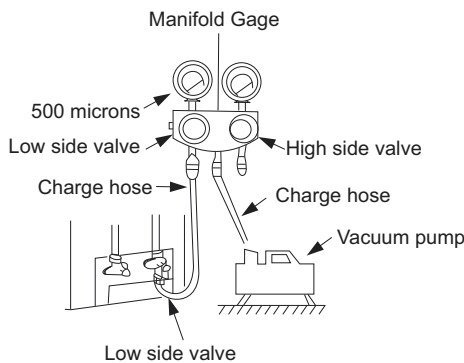

Fig. 20 —Manifold
3. Fully open the low side of manifold gage (see Fig. 20).